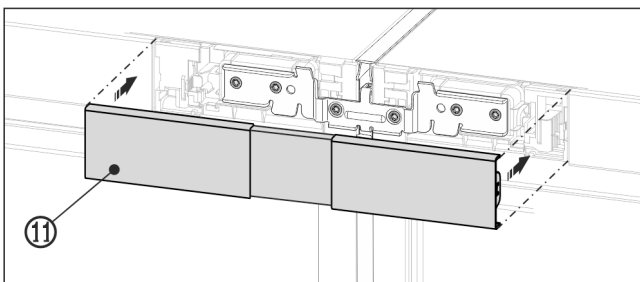

Fig. 24 Example illustration
- Snap the top cover Fig. 24 (11) onto the still open gap between the two control panel trims. Make sure that the outer sides of the cover form a flush finish with the control panel trims.